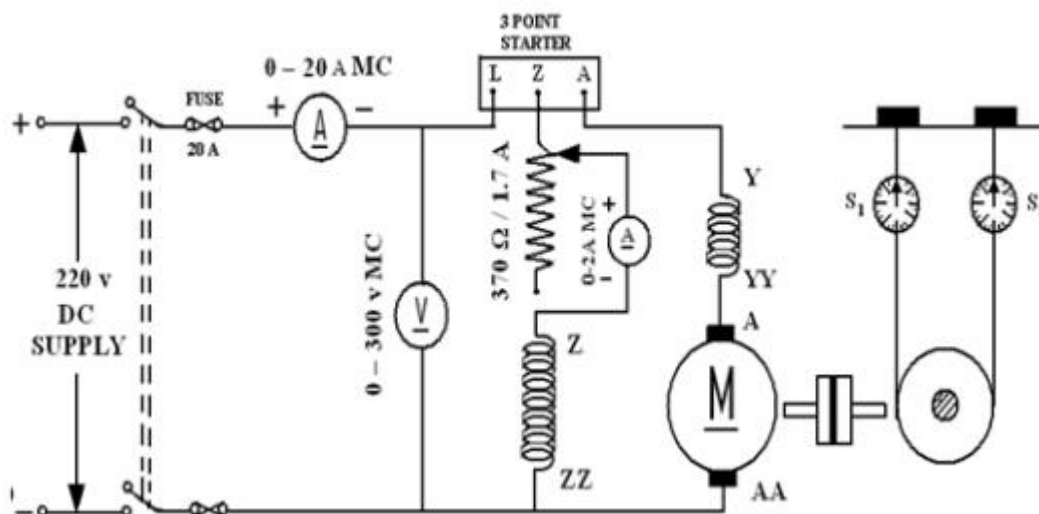

Figure 8 - Brake test on DC compound motor
1. Calculate the efficiency of DC compound motor under different load conditions in figure 8